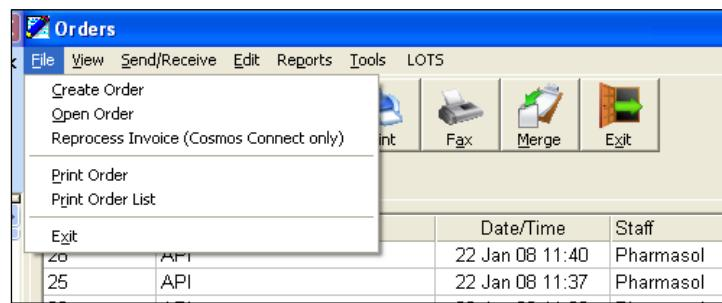

Figure 272
1. 'Drop down menus' located at the top of the screen (as shown in Figure 272).